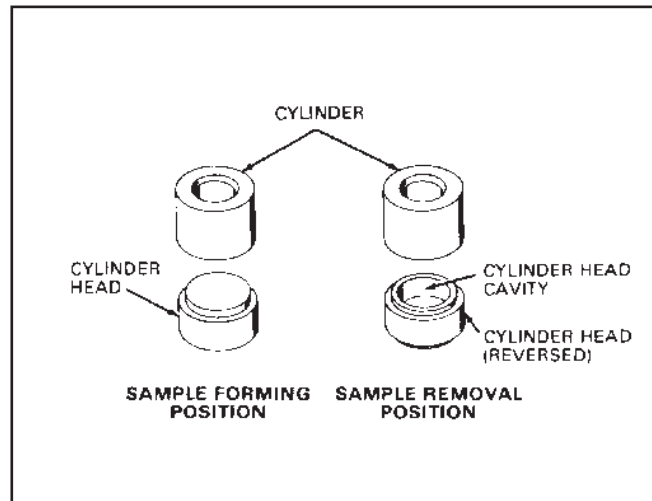

Figure 4.13
5. Remove the cylinder head from the cylinder and reverse its position so that the cavity side of the cylinder head now faces the cylinder. Note the position shown in Figure 4.13.